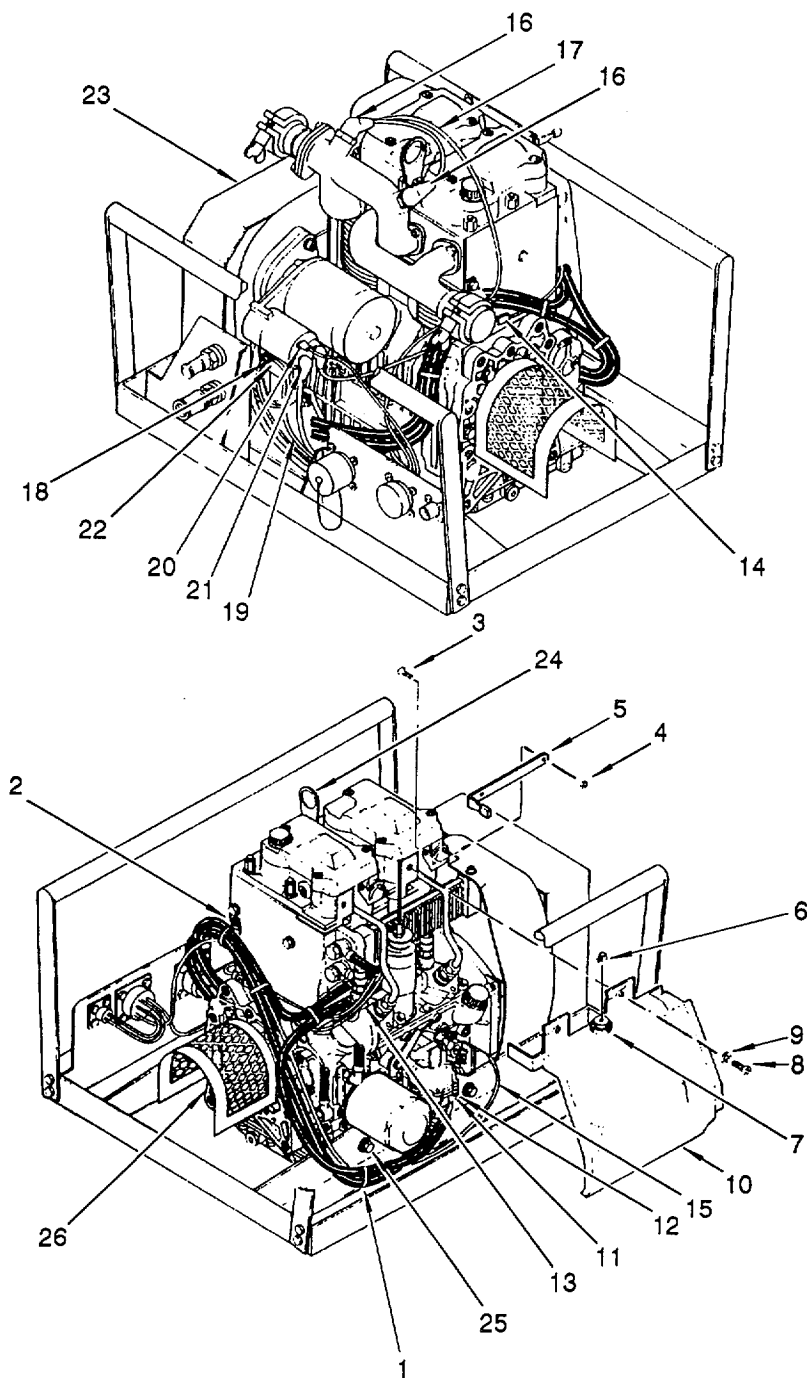

Figure 6-1. Removal of Engine from Engine-Module
6.2 REMOVE ENGINE FROM ENGINE MODULE. (Refer to figure 6-1.)